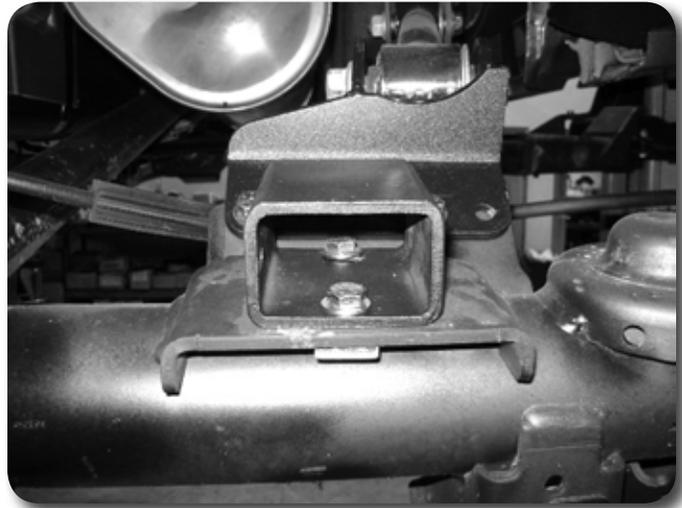

Figure 29
82. Attach bump stop extension to passengers side with 3/8" x 7/8" bolts with washers into threaded plate. Tighten to 35 ft-lbs. 4 in kits orientate the block so that it is the short setup, 6in kits use the block in the tall orientation. **Figure 29**